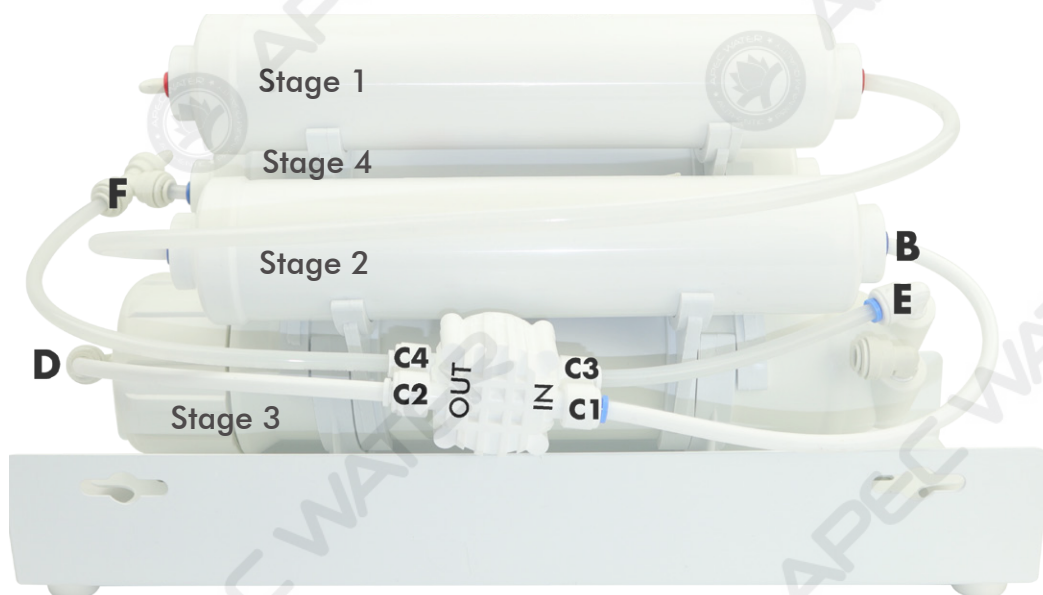

Fig. 17
- ASO connection Error —> See **Fig. 17** to reconnect ASO to the correct connection.
When RO makes a humming noise, most likely it's caused by air bubbles being trapped in the "Check Valve" during installation. See check valve on **Fig. 17, point E (Page 27)**.